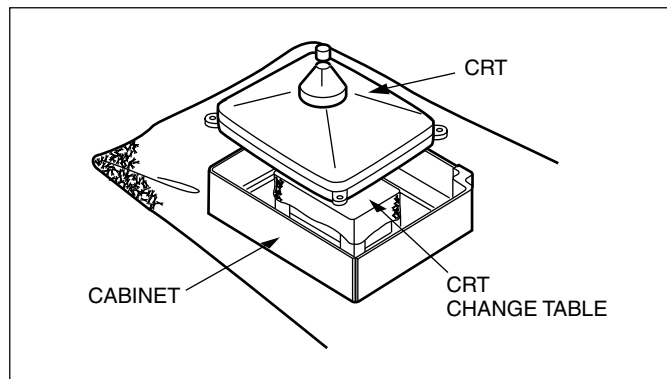

Fig. 5
- 4. After 4 screws have been removed, put the cabinet slowly on cloth (At this time, be carefully so as not to damage the front surface of the cabinet) shown in Fig. 5.